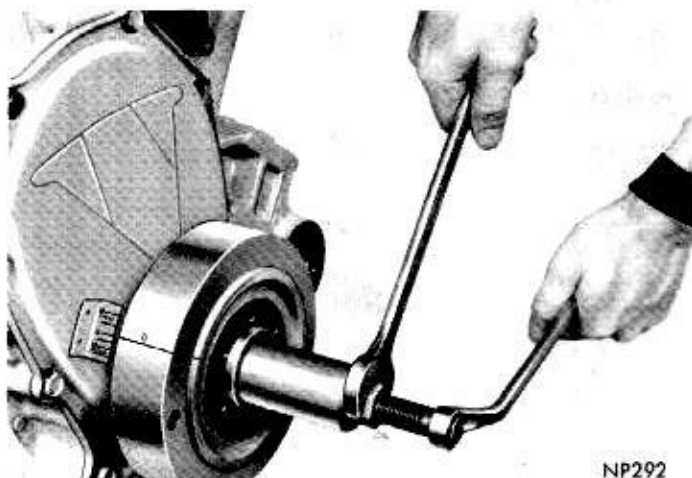

Fig. 24—Installing Vibration Damper Assembly
(1) Be sure mating surfaces of chain case cover and cylinder block are clean and free from burrs.
(2) Using a new gasket slide chain case cover over locating dowels. Install and tighten bolts 15 foot-pounds.
(3) Lubricate seal lip with lubriplate, place damper hub slot on key in crankshaft, and slide vibration damper on crankshaft.
(4) Place installing tool part of Tool C-3688 in position and press damper on the crankshaft (Fig. 24).
(5) Install damper retainer washer and bolt. Tighten to 135 foot-pounds.
(6) Slide belt pulley over shaft and attach with bolts and lockwashers. Tighten bolts to 200 inch-pounds.